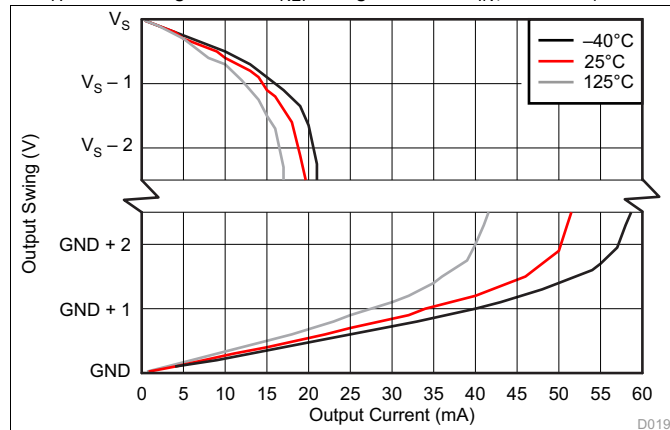

图 19. Output Voltage Swing vs Output Current
(1) RTI = referred-to-input.
(2) See Typical Characteristic curve, *Output Voltage Swing vs Output Current* (图 19).